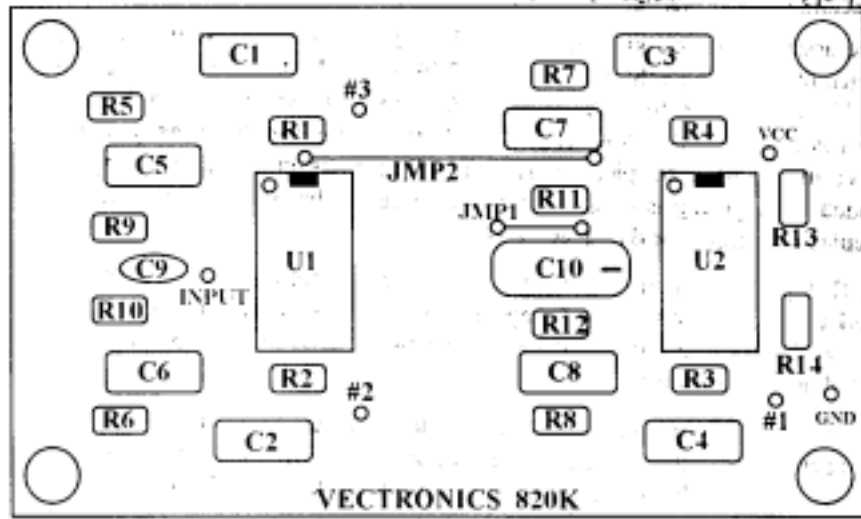

Figure 1
41. Insert the bare ends of the 1 1/4" wire into the holes on the circuit board located at JMP2. Please refer to the section titled "Parts Placement". Figure 1 for the location of JNIP2.
46. Take the remaining 6" lengths of insulated wire and cut them in half. You should have (10) 3" pieces of insulated wire.
67. Locate (1) 14 pin IC socket.
68. Install the IC socket at the U1 location on the circuit board. Be careful to orient the socket correctly according to the "Parts Placement" section Figure 1.
71. Install the IC socket at the U2 location on the circuit board. Be careful to orient the socket correctly according to the "Parts Placement" section Figure 1.
- □ 73. Locate both LM747 op amp integrated circuits. Insert them into IC sockets for U 1 and U2. Please refer to the "Parts Placement" section. Figure 1 for proper orientation. Be sure not to bend any of the pins underneath the IC body, and that all pins are inserted into the socket.